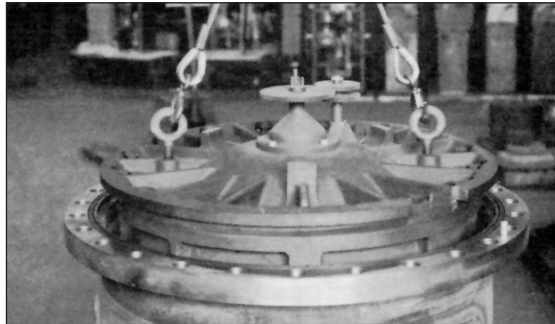

Figure 8
8. Remove the locking bolts from the outer housing. Lift inner unit from housing, Figure 8, and set on level floor.
- The M16 has two (2) locking bolts located at the top and bottom of the outlet nozzle.
- The K12 and JB10 have four (4) locking bolts located at the top and bottom of the inlet nozzle.